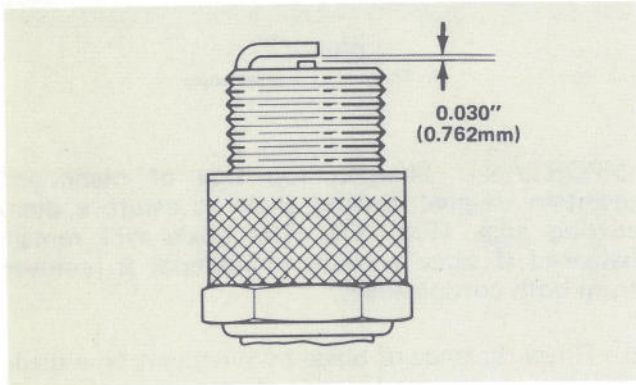

Figure 32
3. Set air gap between electrodes at 0.030 of an inch (Fig. 32). Install correctly gapped spark plug with gasket seal and tighten plug to 15 ft-lb. If torque wrench is not used, tighten plug firmly.